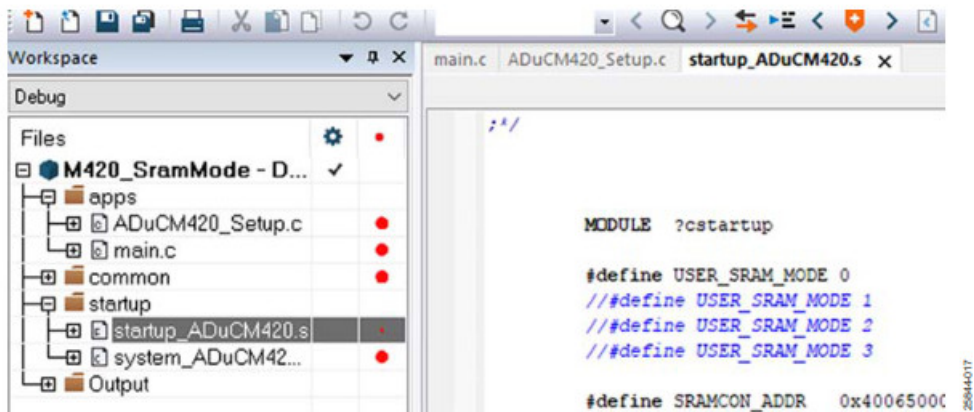

Figure 31. IAR SRAM Setup startup_ADuCM420.s SRAM Modes
1. After the example program is opened from the IAR IDE, ensure that the macros shown in Figure 30 are set up and commented in to select the SRAM mode the linker file is operating in. The M420_SramMode example code (see Figure 31) uses a linker file, the ADuCM420flash_SramMode.icf file (see Figure 32) placed in the IAR folder within the SramMode example program.
2. Configure the macros shown in Figure 30, Figure 31, and Figure 32 to run the SRAM modes. Ensure the main.c, startup_ADuCM420.s, and ADuCM420flash_SramMode.icf macros are selected with the correct SRAM mode.
3. Users can select the desired USER_SRAM_MODE macro as shown in Figure 31 and Figure 32. Users can also select the TEST_SRAM_MODE macro as shown in Figure 30. By default, the example program is running in TEST_SRAM_MODE 0. Ensure the main.c macro, which runs the debug mode, shows that the instruction